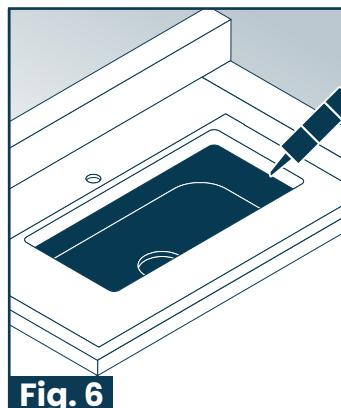
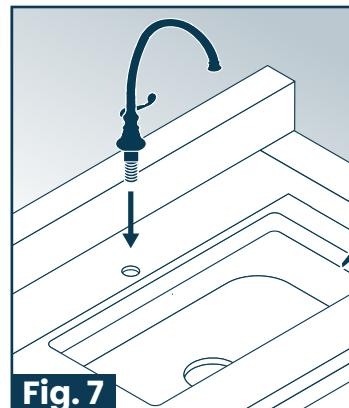

Fig. 6
Fig. 7
6. Apply silicone sealant, and wipe away any excess. Fill voids and allow to dry. (Fig. 6) (Fig. 7)